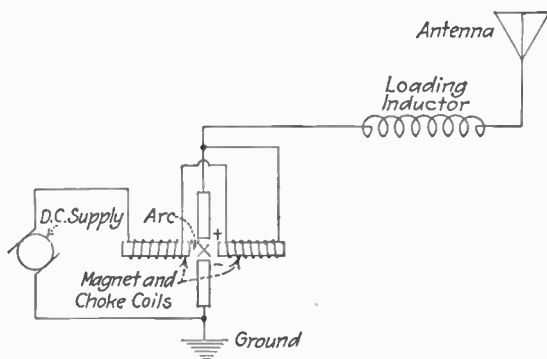

FIG. 8.—Elementary wiring diagram of arc transmitter.
*Ans.* For an elementary diagram of an arc, see Fig. 8.